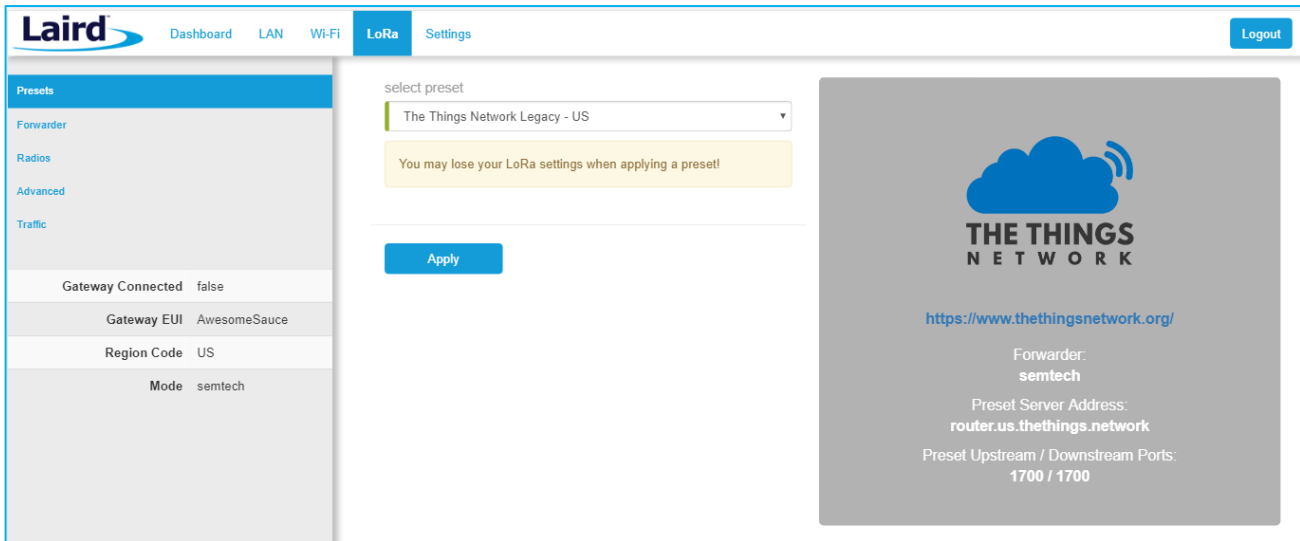

Figure 29: Selecting a preset configuration
2. Select the preset from the drop down. Information about this preset is displayed in a panel to the right (Figure 29).